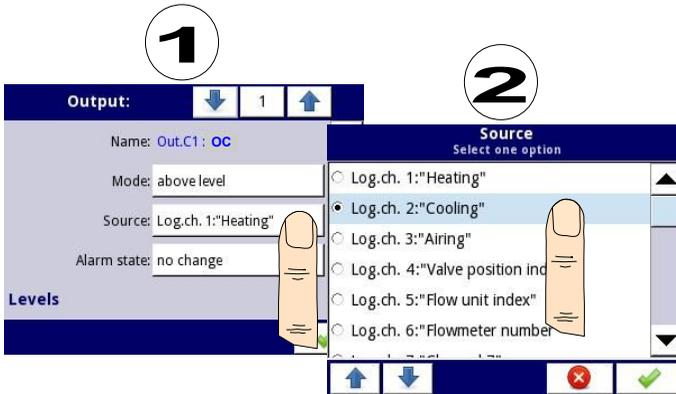

Fig. 7.81. Data source settings for built-in output (for OC hardware configuration)
selected logical channel will be a data source for this built-in output (see **Fig. 7.81**).
- **Source** - this parameter contains a list of logical channels (up to 60), where the selected logical channel will be a data source for this built-in output (see **Fig. 7.81**).
- **Source** – this parameter contains a **Logical channels** list, where the selected logical channel will be a data source for this built-in output (see **Fig. 7.81**),